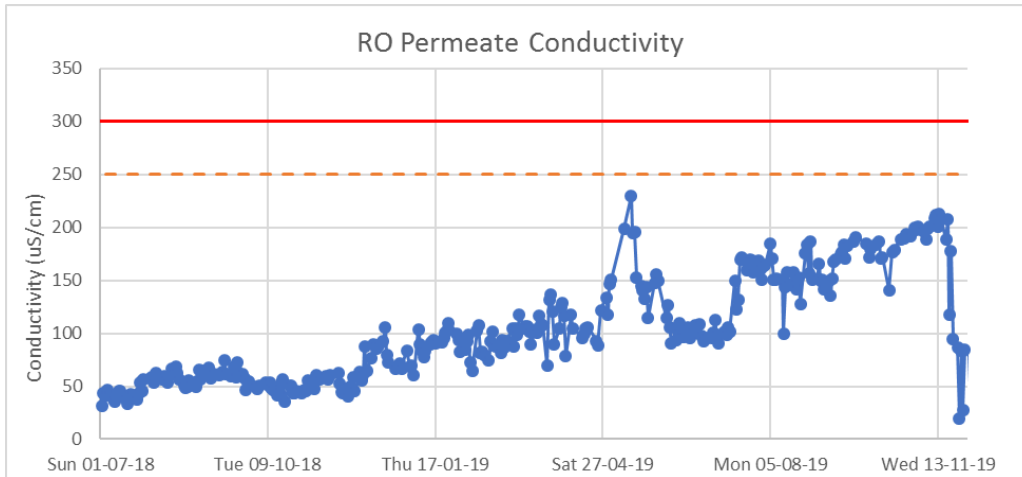

Figure 3. An example of a control chart with the control limits set too wide. The orange dashed line is the control limit and the red line the critical limit.
Figure 3 shows an example of data from a recycled water plant where the reverse osmosis (RO) electrical conductivity continued to rise to four times the average without reaching the upper control limit. Once the operators noticed the trend, the membranes were replaced and the conductivity returned to normal.
Figure 4 shows the same electrical conductivity data shown in Figure 3 with the control limit changed to three standard deviations above the mean for the period from July to October 2018. With this statistical control limit, the rising trend could have been noticed nearly a year earlier and potentially membrane cleaning could have extended the life of the membranes and saved the cost of replacing the membranes.
Figure 4. The same control chart as that shown in Figure 3 with the control limit adjusted to three standard deviations from mean for the data from July to October 2018. The orange dashed line is the control limit and the red line the critical limit.